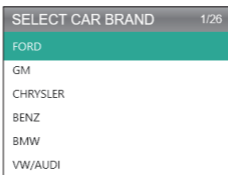

Figure 6.1.4
3. For manufacturer-specific codes, you will have to select the vehicle model to access the specific description of the codes. (See Figure 6.1.4)